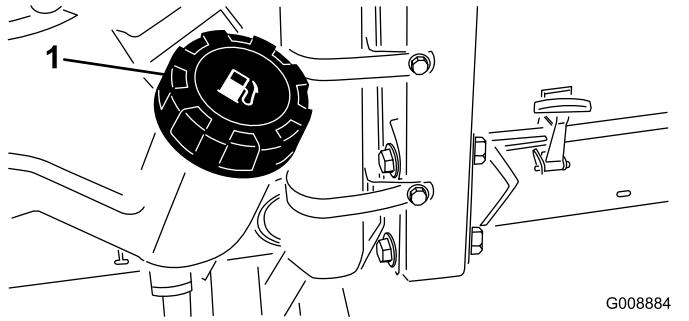

Figure 22
1. Clean the area around the fuel tank cap (Figure 22).